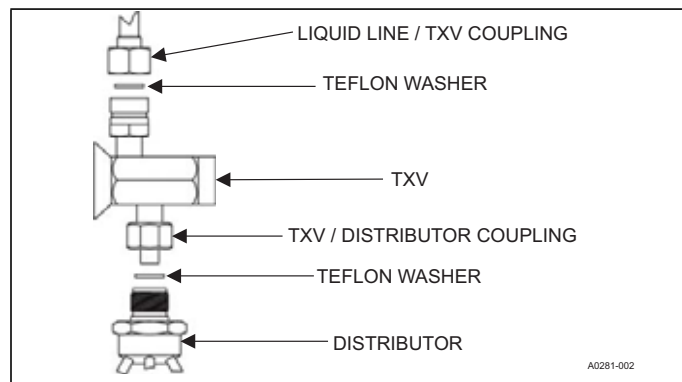

FIGURE 6: TXV Installation
4. Install the thermal expansion valve to the distributor assembly with supplied fittings. Ensure Teflon washer is seated in distributor. Hand tighten and turn an additional 1/4 turn to seal. **DO NOT OVERTIGHTEN FITTINGS.** See Figure 6.